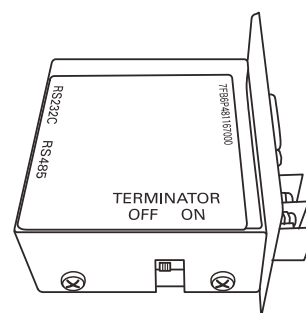

Fig. 3
3. Pass a recorder sensor through the inside of the freezer, and use the clip of the recorder sensor cover, and fix a recorder sensor with a screw. Seal the recorder sensor hole with a silicon caulking. (Fig. 3)
3. Refer to the instruction manual attached to the interface board for the setup of the TERMINATOR switch of the interface board (MTR-480). (Fig. 3)